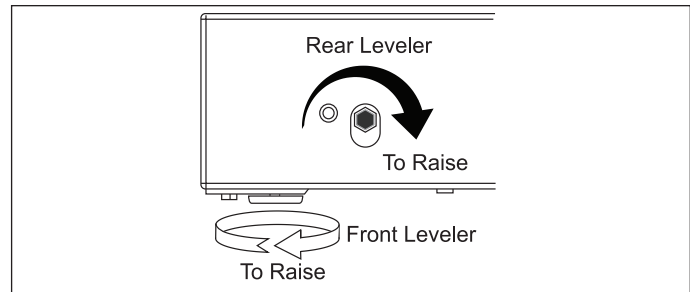

Figure 2-27.
1. To adjust the height of the cabinet back, use an adjustable wrench and turn the leveling bolt clockwise to raise or counterclockwise to lower. (See Figure 2-27).
2. To adjust the height of the cabinet front, turn the front leg leveler clockwise to raise or counterclockwise to lower. (See Figure 2-27).